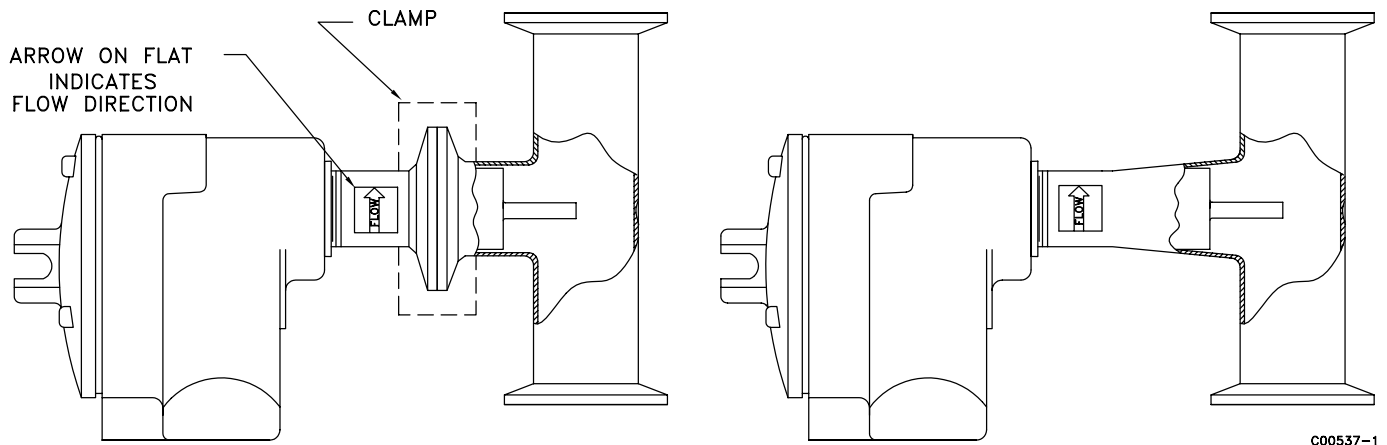

Figure 2-4 FLT93-C Sanitary Flow Elements (RC and CIP)
The instrument is inserted into the process connection with a removable clamp fittings. The Removable Clamp (RC) sanitary assembly contains a removable clamp connection to the flow element. The Clean-In-Place (CIP) sanitary assembly has the flow element directly welded into the process stand pipe. Otherwise these instruments function exactly the same as an FLT93-F or FLT93-S. See Appendix A for an out-line dimensions of the instruments. Figure 2-4 also shows the sanitary assemblies.